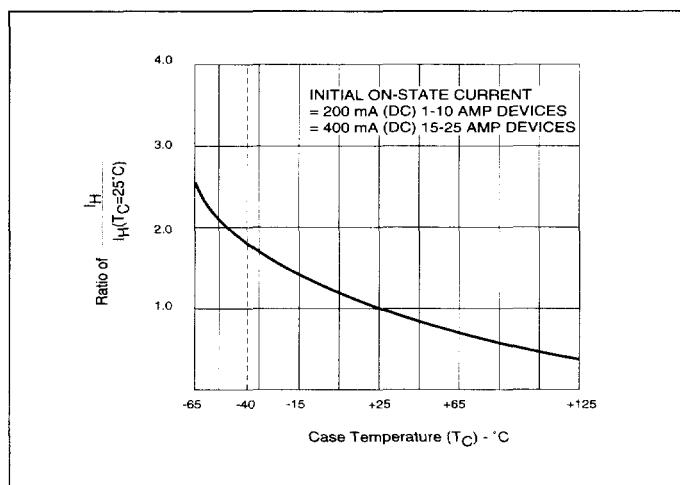

Figure 2.14 Normalized DC Holding Current vs Case Temperature
- (8) See Figure 2.14 for I_H vs T_C .